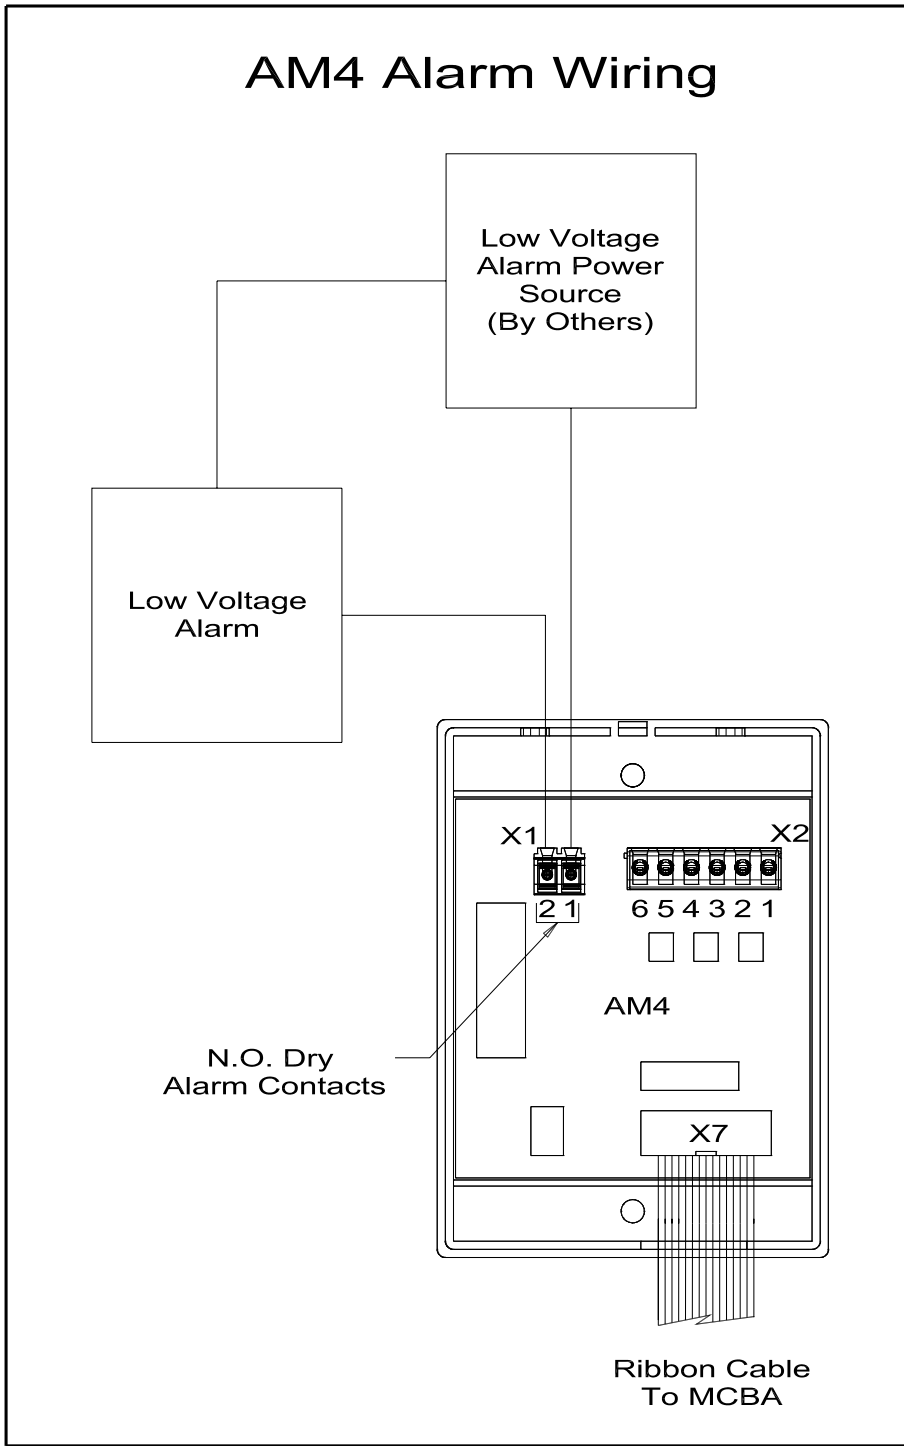

Figure 1.5: AM4 Alarm Wiring
6. Connect the alarm wiring to terminals X1-1 and X1-2 in the AM4 module (Figure 1.5) and run this wiring through one of the openings in the bottom of the control compartment.
5. Connect the alarm wiring to terminals X1-1 and X1-2 in the AM4 module (Figure 1.5) and run this wiring through one of the openings in the RH jacket panel above the junction box.
2. When the alarm contacts on the AM4 are used (see Figure 1.5), the MCBA will close the alarm contacts and activate the alarm upon any hard lockout error code. The contacts will remain open during soft lockouts. To check the alarm function, turn off power to the boiler and unplug the connector at the low water cut-off. When the boiler is turned back on, the alarm should activate. To restore normal operation, plug the LWCO back in and push the reset button on the boiler.